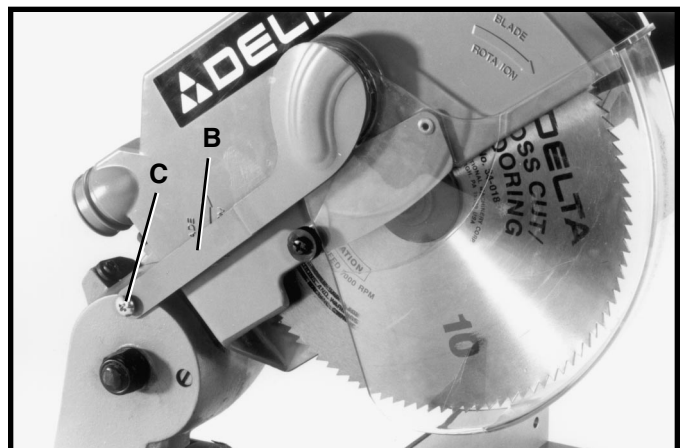

Fig. 4
4. Insert special screw (C) Fig. 4, into hole in end of lower blade guard link (B) and reassemble special screw (C) into hole in pivot bracket, as shown.